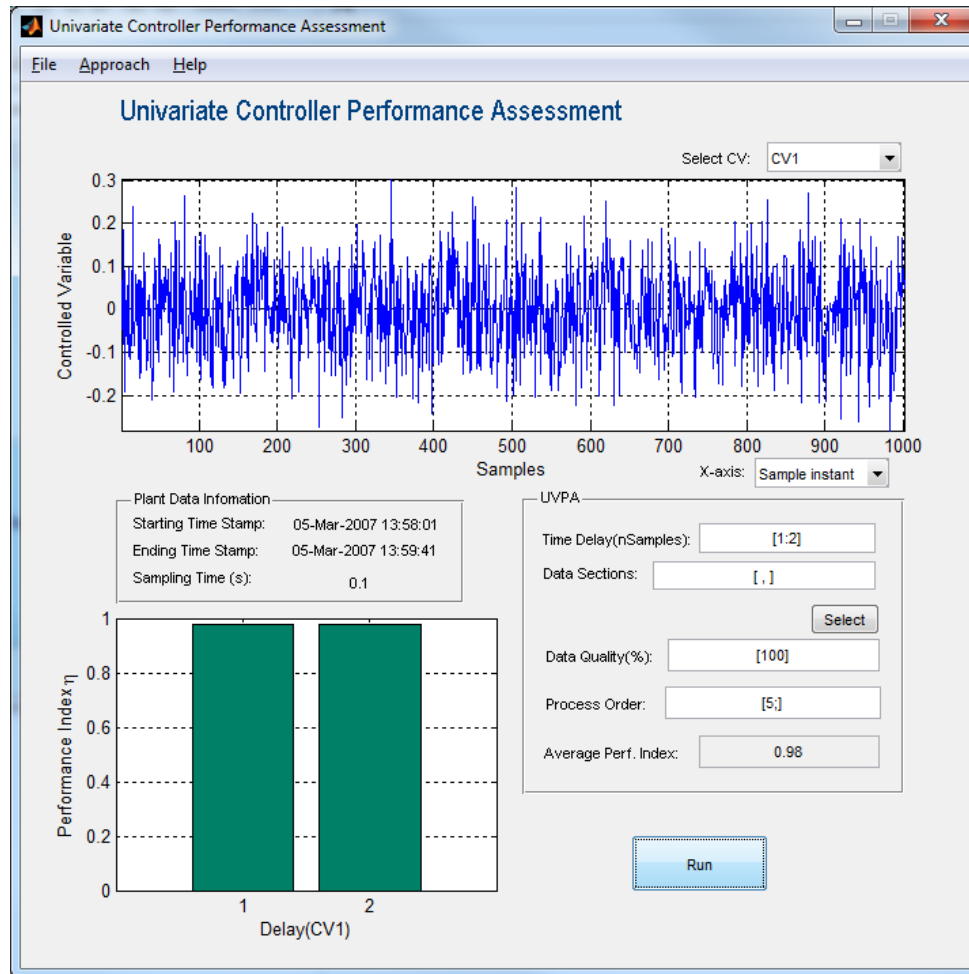

Figure 4: Screen shot after clicking "Run"
- 9) After a few minutes, the screen should become similar to that shown in Figure 4.
- 10) Figure 4 shows that using the given controller, the performance index is approximately 1 regardless of the time delay. This implies that the given controller, compared to a minimum variance controller, is almost the same, which implies that the control is optimal.